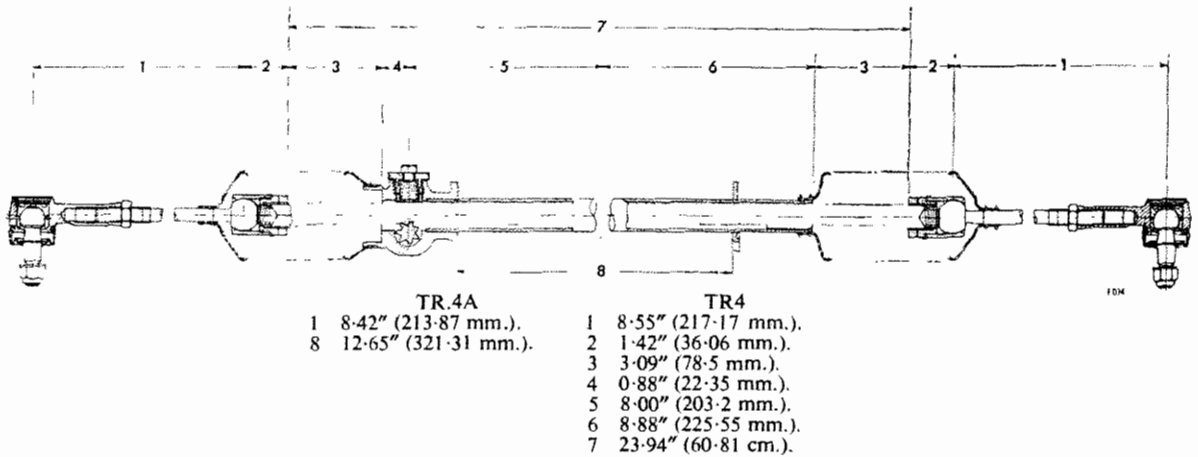

Fig. 19. STEERING UNIT DIMENSIONS
Having checked that the steering unit conforms to the dimensions given on Fig. 19, count the number of pinion shaft revolutions required to move the rack from lock to lock. Turn the shaft back to centralise the rack, and move the steering wheel to the straight ahead position.
Fit a locknut (21) and spring (24) to each end of the rack (20), and screw on each outer tie-rod assembly. Adjust the position of the tie-rod assemblies on the rack (20) to dimension 7 Fig. 19. Tighten the locknut to maintain this position.